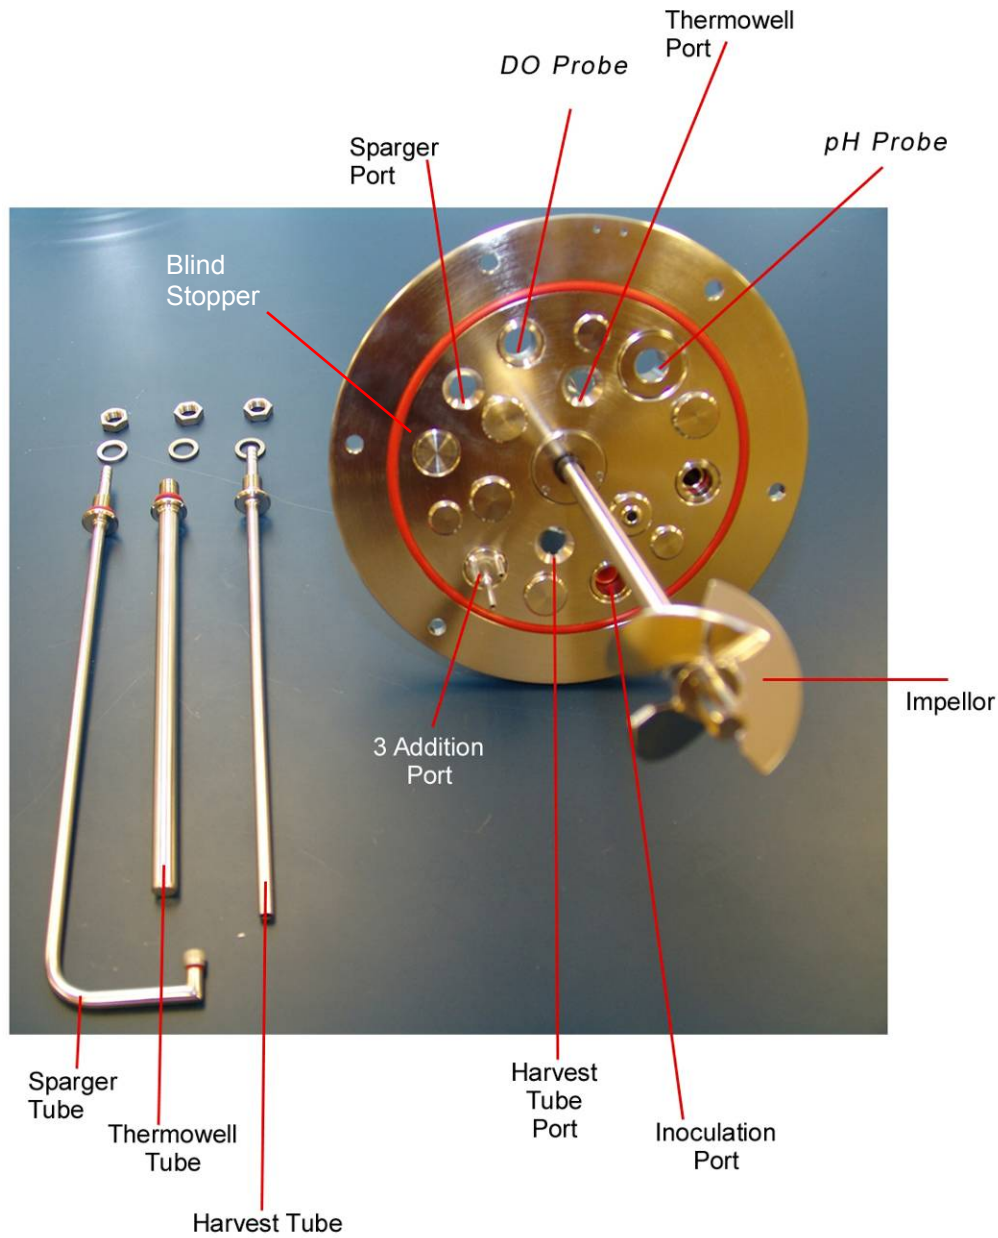

Figure 2: Underside of Headplate
- 9.2. Figure 2: Underside of the Headplate